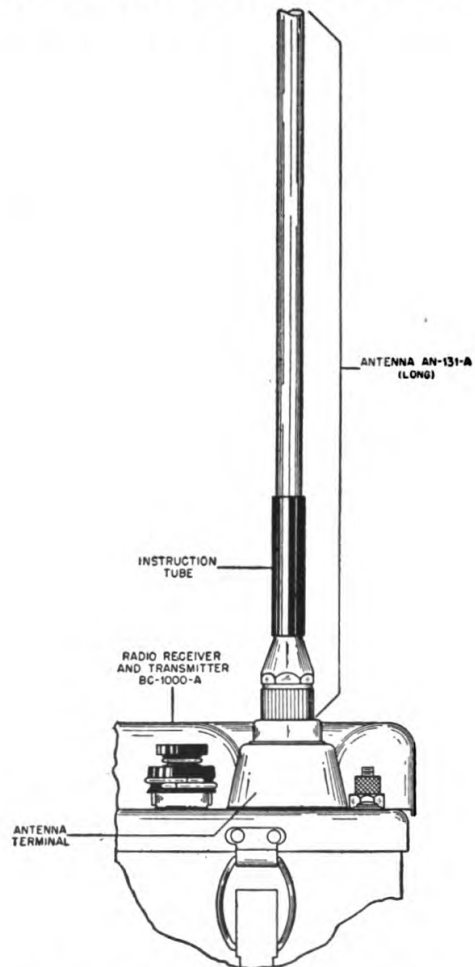

Figure 7. Antenna AN-131-A,
Antenna AN-131-A is a lightweight tapered flexible antenna consisting of eight sections and is 10 feet 8 inches in length when assembled. The eight sections are held captive by means of a kinkless, stainless steel cable which runs the entire length of the antenna and is under spring tension. This cable eliminates the possibility of losing a section and permits rapid assembly of the antenna. A threaded stud is provided at the base of the antenna to attach it to the antenna terminal of the set. The GROUND FOR SHORT ANTENNA binding post is not used with Antenna AN-131-A, since no antenna matching circuit is required. (See Figure 7.) Antenna AN-131-A is designed for use in unobstructed areas only. Antenna AN-131-A is carried in Bag BG-150-A, when not in use.
(2) *Antenna AN-131-A.* This is an 8-section antenna, the sections of which are folded back when not in use. Grasp the bottom or largest diameter section and toss the remaining sections out. Then gently whip the antenna a few times. This will allow the tension spring, that is located in the bottom section to pull all the sections together by means of the cable that runs throughout the length of the antenna. Screw the assembled antenna into the antenna terminal that is located near the lower right hand corner of the set front panel (See Figure 7.) Approximately five turns are required to screw the antenna into the terminal. *Don't use force.*